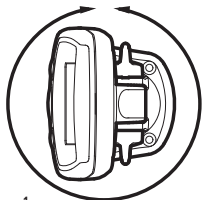

Figure 1
- Your PiranhaMAX uses a tilt mounting base. The mounting area should allow sufficient room for the unit to pivot freely, and for easy removal and installation (Figures 1 and 2).